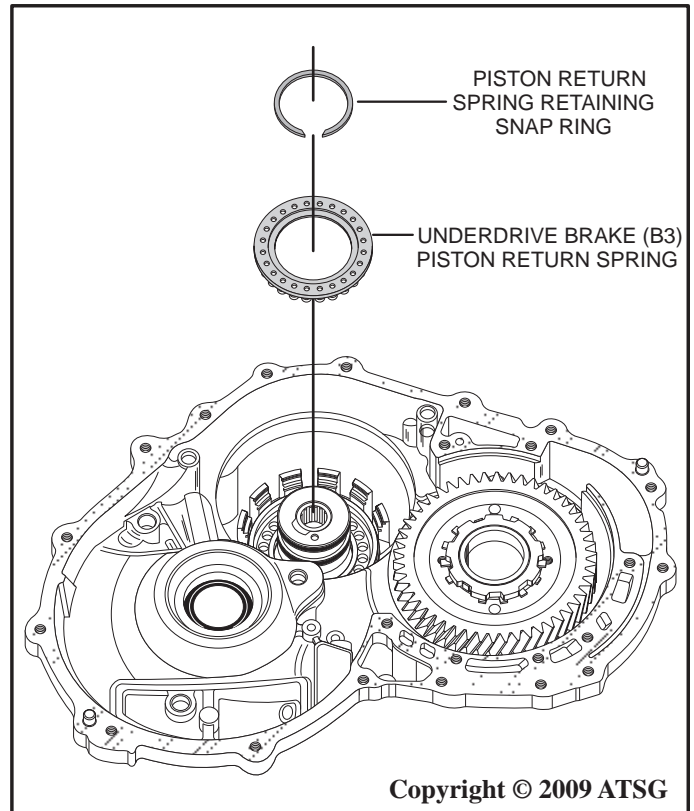

Figure 188
85. Make sure piston is fully seated into the case. Install the underdrive brake (B3) piston return spring into the piston as shown in Figure 188.
86. Using SST 09387-00020 or similar and a suitable press, compress the piston return spring as shown in Figure 188.
87. Using a pair of snap ring pliers, install the piston return spring retaining snap ring as shown in Figure 188.